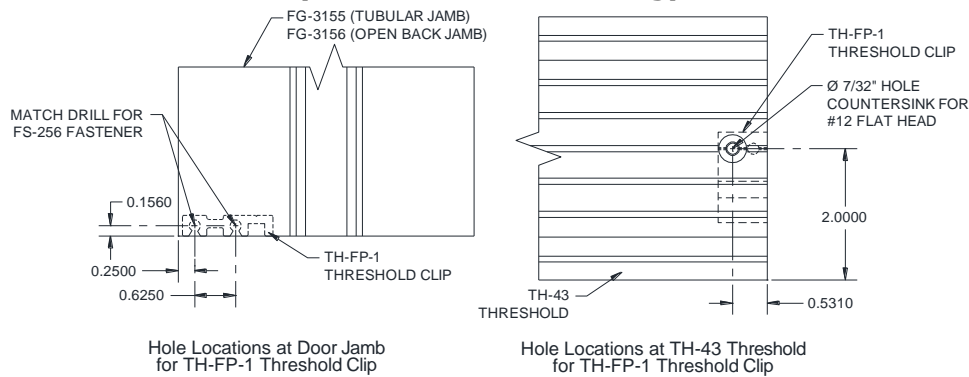

Figure 9: Fabrication for ArmorDefend™ Framing at Threshold Clip
2.1.3 Align **TH-FP-1** Threshold Clip to Door Jamb and match-drill for **FS-256** Fastener. Threshold Clip should sit flush at the bottom of Door Jamb. See *Figure 9* for guide.
2.1.4 Prep the **TH-43** Threshold for the **TH-FP-1** Threshold Clip. At each end of Threshold, drill a 7/32" hole with a countersink for a #12 Flat Head fastener, per *Figure 9*.